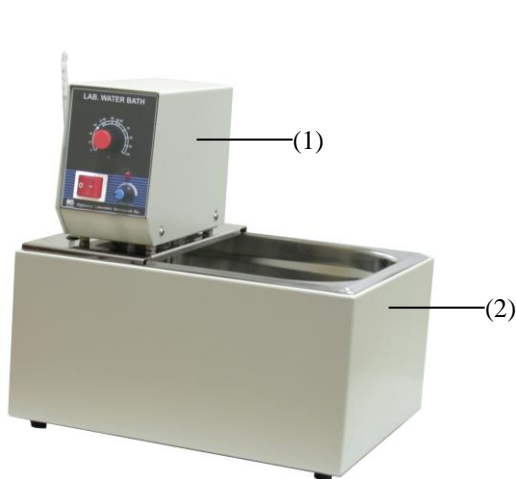

Figure 1
1. Take “Controller” (1) out and set it into “Tank” (2) as Figure 1.
3. Insert “Thermometer” (3) into the “Opening for Thermometer” (4), and to be sure that the end of “Thermometer” is under the water level. (In order to insert “Thermometer” into the “Opening for Thermometer” easily, you can wet “Thermometer”.)
4. Before connecting the power supply, please check if “Power Switch” (5) is placed at “OFF” position.
5. Place “Power Switch” at “ON” position, then switch lamp lights up and “Pump Circulator” (6) starts running.
6. Adjust “Temperature Control” (7) to the required Temperature scale, and then “Heater Lamp” (8) lights up. When water temperature reaches the required temperature scale, “Heater Lamp” becomes off.
7. Check the “Thermometer” if the temperature is the same as the required temperature. If the thermometer temperature is under the required temperature, turn “Fine Adjuster” (9) clockwise slightly; if the thermometer temperature is over the required temperature, turn “Fine Adjuster” (9) counterclockwise slightly. Check and adjust until the thermometer temperature is the same as the required temperature.